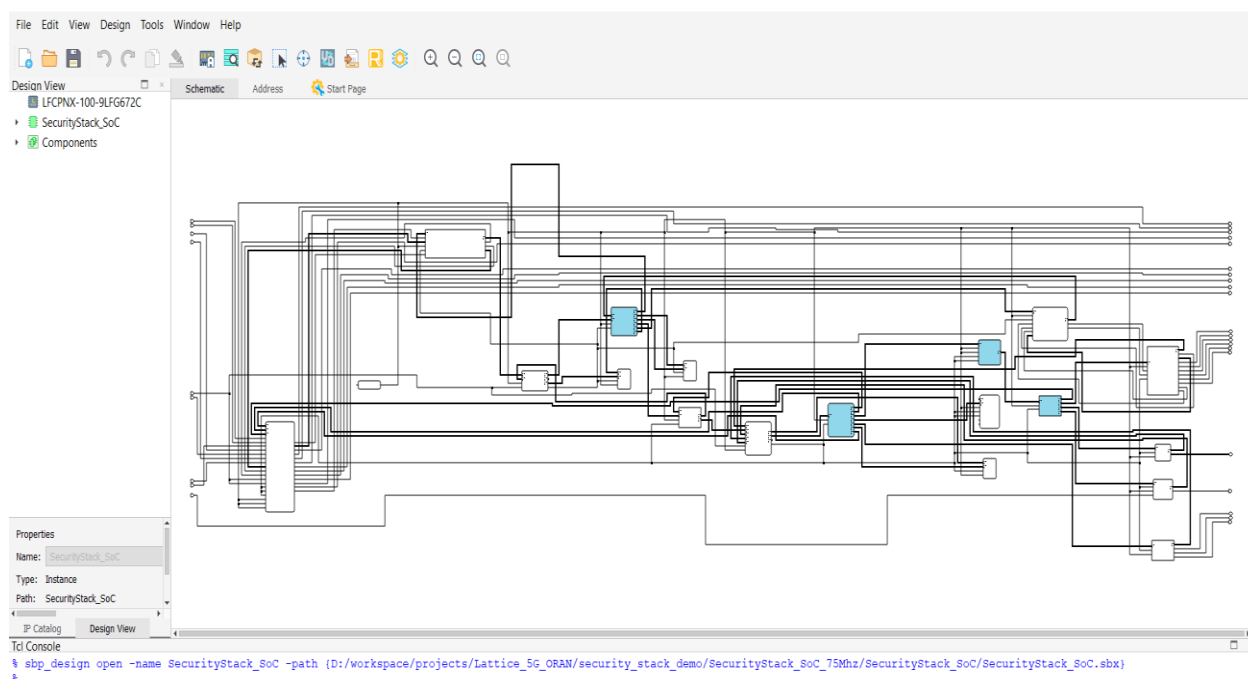

Figure A.11. Complete Security Stack SoC Project
2. The complete Security Stack SoC project opens in Lattice Propel Builder 2.2 as shown in Figure A.11. Double click on both CPUs. Disable the Simulation Mode and enable the Debug Mode only in the Application CPU.